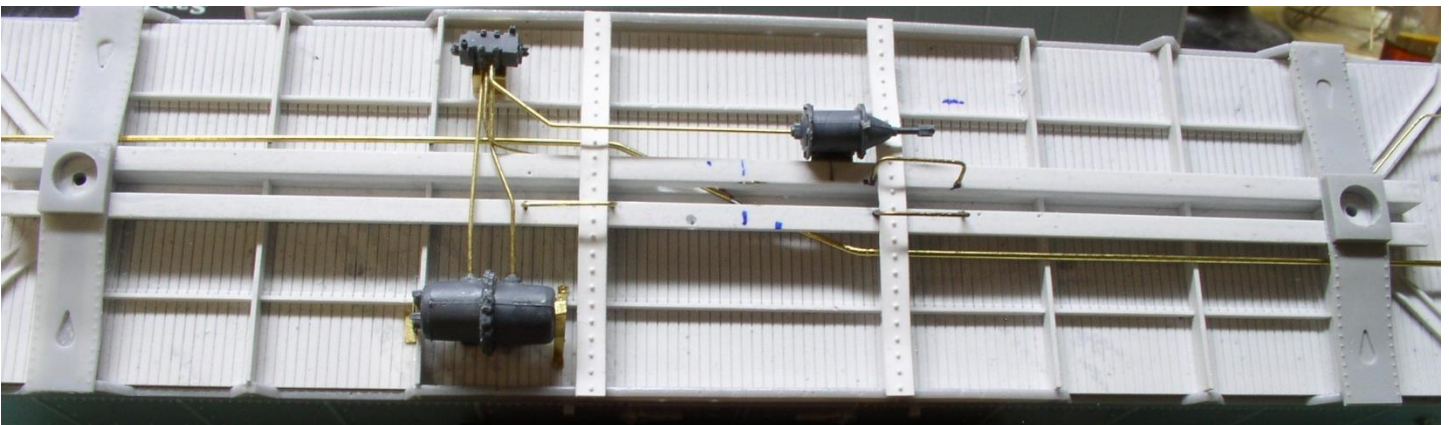

Figure U17
- Glue the Bolster caps on the Bolsters making sure that the holes are lined up. See Figure U17. . Attach trucks to check if you desire.